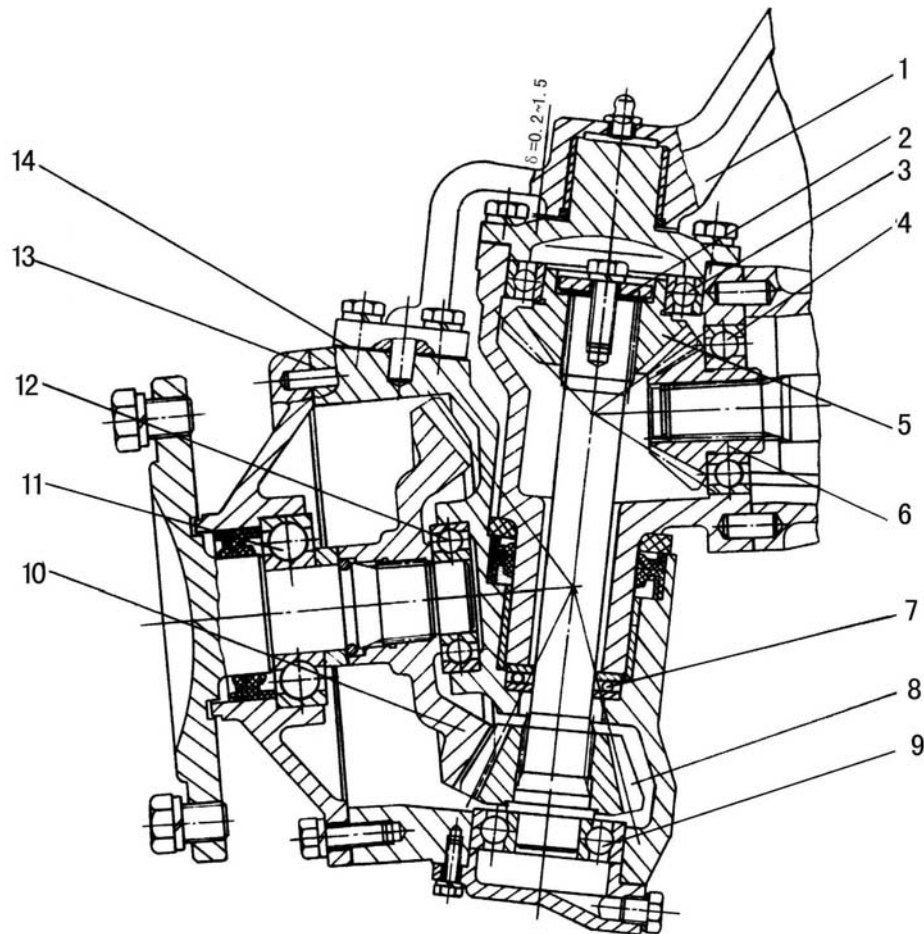

Fig.4-10 Final trasmission of front drive axle
2) Adjustment of side reduction gear pairs (Fig.4-10)